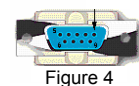

Figure 4
- Step 2** Route the female connector (DB9F – see Fig. 4) to the driver compartment and connect to the serial port located on the rear of the MDC.